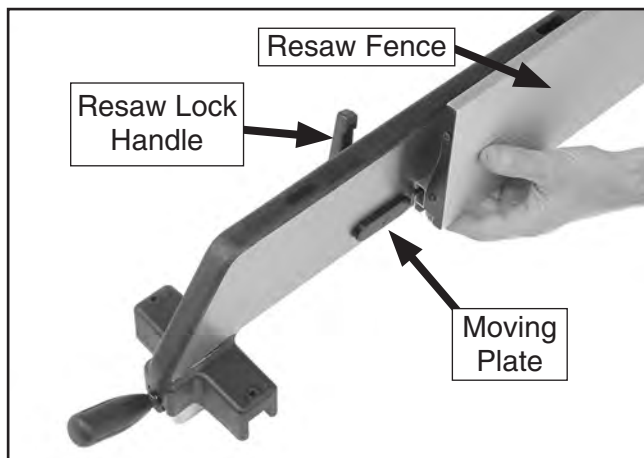

Figure 18. Example of attaching resaw fence to standard fence.
1. Install resaw fence lock handle, 8mm fender washer, and moving plate onto standard fence (see **Figure 18**), then slide resaw fence over moving plate.